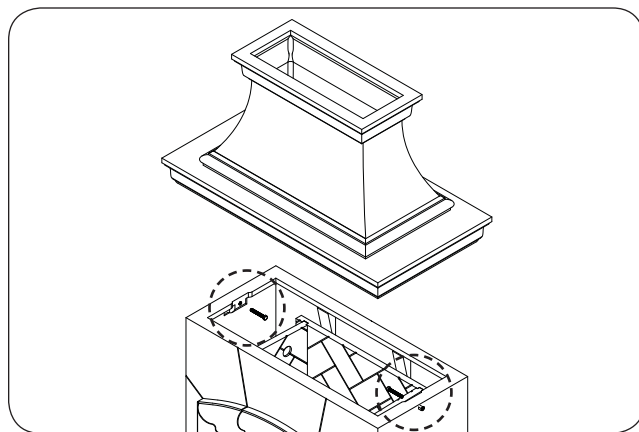
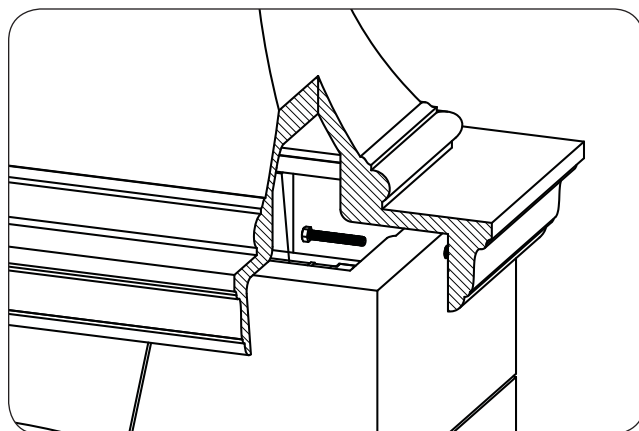

Fig. 15-2 Assemble chimney
Fig. 15-3 Bolt detail
1. Place the chimney piece on top of the body piece. See Fig. 15-2.
2. The left and right sides of the body interior each have a pre-installed bolt for securing the chimney. Reach up through the body and tighten the two bolts using a $9/16$ " open end wrench (or equivalent). See Fig. 15-2 and Fig. 15-3.